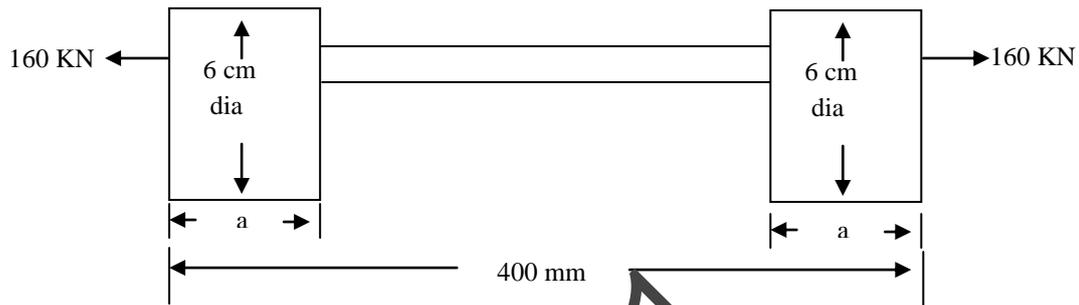

Fig. Q.11(a)
8) The bar shown in fig. Q.11(a) is subjected to a tensed load of 100 KN of the stress in middle portion is limited to 150 N/mm^2 . Determine the diameter of the middle portion. Find also the length of the middle portion if the total elongation of the bar is to be 0.2 mm young modules is $2.1 \times 10^5 \text{ N/mm}^2$